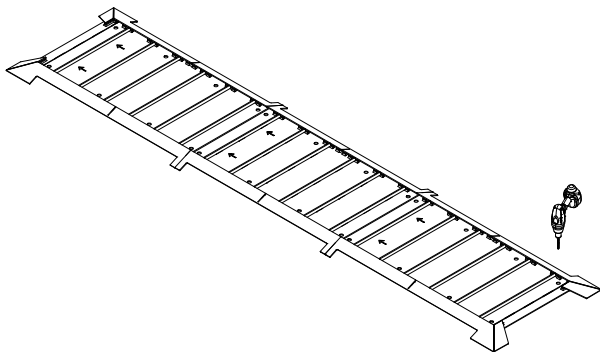

Figure 26
1. Drill two (2) holes in adjacent corners of ground plate, then install (2) anchor bolts in the same drilled holes to hold the plates in place. See **figures 26 and 27**.